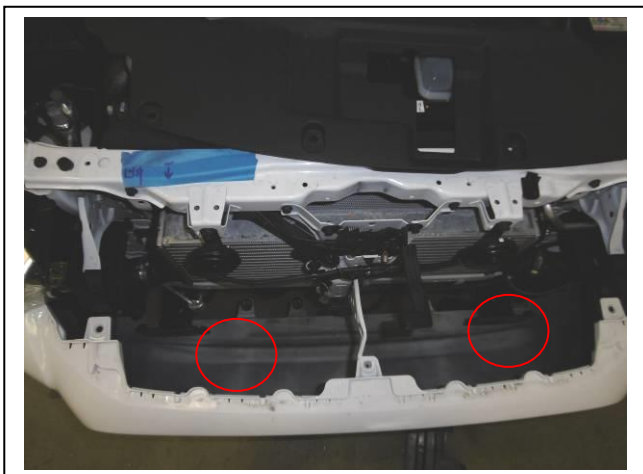

Figure 3
5. From bumper behind grille, remove two plastic push pull clip. **See figure 3.**